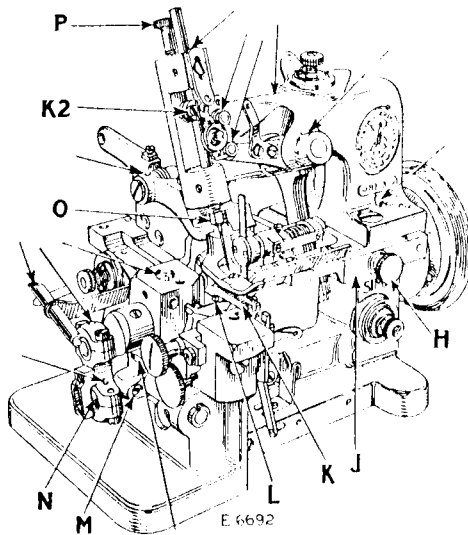
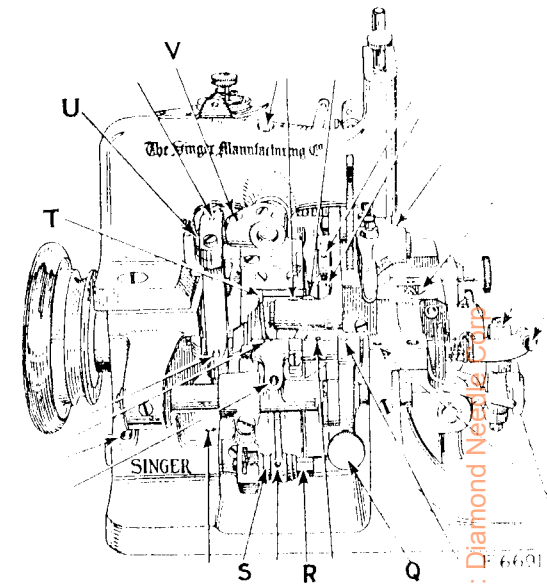
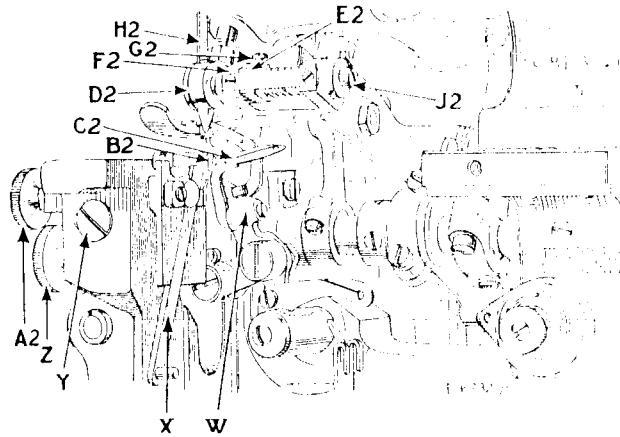

Fig. 2. Oiling Points at the Front of the Machine
Fig. 3. Oiling Points at the Back of the Machine
Fig. 8.
Oil should be applied to all oil holes marked "Oil" and to all oiling places indicated by arrows in Figs. 2 and 3.
Loosen the clamping nut (O, Fig. 2) at the lower end of the needle bar and put the needle up into the bar as far as it will go, with the ground out side at the back, or farthest from you. Then tighten the clamping nut (O).
The length of stitch is regulated by the feed regulator (S, Fig. 3). With the wrench provided, loosen the screw stud (R, Fig. 3) and move the regulator backward or forward until the indicator (T, Fig. 3) points to the number, on the indicator plate, designating the required stitch. Then securely tighten the screw stud (R).
The pressure on the material is regulated by means of the thumb screw (P, Fig. 2). To increase the pressure, turn this thumb screw downward. To decrease the pressure, turn the thumb screw upward.
Turn the balance wheel over from you until the needle bar has risen $\frac{3}{16}$ inch from its lowest position. The point of the left hand looper, on its loop taking stroke, should then be at the centre of the needle, and the eye of the needle should be about $\frac{1}{16}$ inch below the looper point. If the needle bar is not at the correct height, loosen the pinch screw (K2, Fig. 2) and move the needle bar upward or downward as required, then securely tighten the pinch screw (K2).
A variation in the amount of needle bar stroke can be obtained by adjusting the ball stud (U, Fig. 3). To lengthen the stroke, loosen the set screw (V, Fig. 3) and move the ball stud inward or toward the crank. To shorten the stroke of the needle bar, move the ball stud (U) outward or away from the crank, then securely tighten the set screw (V).
The left hand looper (C2, Fig. 8) should be set in the looper carrier (W, Fig. 8) so that the point of the looper on its loop taking stroke just brushes the needle. The point of the right hand looper or spreader should pass at the recess back of the left hand looper eye as closely as possible without touching it.
A variation in the amount of the looper motion can be obtained by adjusting the ball stud (N, Fig. 2). To increase this motion, loosen the set screw (M, Fig. 2) and move the ball stud (N, Fig. 2) inward or toward the crank. To decrease the motion, move the ball stud outward or away from the crank. After the desired motion has been obtained, securely tighten the set screw (M, Fig. 2).
The lower knife (X, Fig. 8) should always be fastened in position when removing or replacing the upper knife. The lower knife is adjustable
To take out the lower knife (X, Fig. 8), loosen the thumb screw (A2, Fig. 8) and press the upper knife holder (D2, Fig. 8) toward the balance wheel, then draw the knife out downwardly. To replace the lower knife, have the presser foot and feed down, press the upper knife holder toward the balance wheel, and push the lower knife upwardly so as to touch the presser foot without lifting it, or so that it is just flush with the top of the throat plate, then tighten the thumb screw (A2, Fig. 8). To adjust the trimmer sidewise, loosen the thumb screw (H, Fig. 2) and move the extension bracket (J, Fig. 2) to the right or away from the upper knife. Loosen the screw (Y, Fig. 8) and turn the thumb screw (Z, Fig. 8) inward or outward until the trimmer is in the desired position, then securely tighten the screw (Y). Move the extension bracket (J, Fig. 2) back toward the upper knife, leaving just enough clearance between the upper knife and the bracket so as to allow free movement of the upper knife, then tighten the thumb screw (H, Fig. 2).
To remove the upper knife (H2, Fig. 8), loosen the screw (J2, Fig. 8) at the end of the knife holder, press the knife holder (D2) toward the balance wheel and remove the knife. When replacing the knife, have the knife holder in its lowest position and pressed toward the balance wheel, insert the knife and set it so that its cutting edge is just below the cutting edge of the lower knife, then tighten the clamping screw (J2).
To adjust the tension on the upper knife, loosen the set screw (G2, Fig. 8) and move the knife holder guide (E2, Fig. 8) toward the balance wheel until the distance between the knife lever (F2, Fig. 8) and the guide (E2, Fig. 8) is equal to the thickness of the upper knife when the knives are in contact with each other, then securely tighten the set screw (G2).
The feed dog (K, Fig. 2) should be set so that when it is raised to its highest point by the feed lifting eccentric the full depth of the teeth will project above the throat plate. The feed dog can be set at the desired height after loosening the screw (L, Fig. 2). When the feed dog is set at the required height, securely tighten the screw (L).
When very elastic materials are to be sewn on machines 81K3, 81K4, 81K6, 81K7, 81K20 or 81K21, the back feed dog (B2, Fig. 8) should remain in its raised position only long enough to permit the work to come out flat. To adjust the back feed (B2), turn the adjusting thumb screw (Q, Fig. 3) inward to lengthen its duration of feed and outward to shorten its duration of feed.